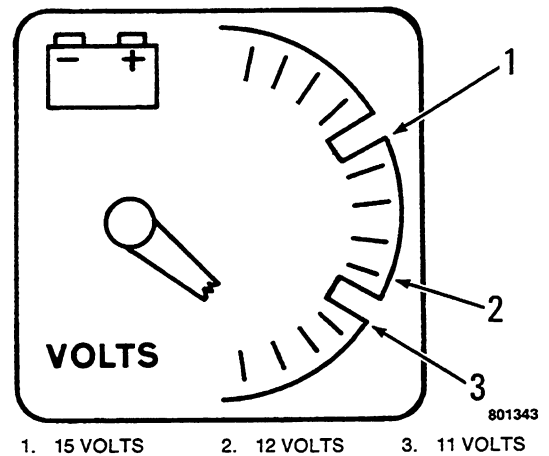

Figure 5
- h. Check the wire for the gauge with an ohmmeter. Connect one of the ohmmeter leads to the end of the wire that was connected to the sender. Connect the other ohmmeter lead to the terminal in the connector for the instrument cluster. See Figure 5, Section 4003 to locate the correct terminal in the connector.
- d. Look at the volts gauge. See Figure 5. Compare the indication of the volts gauge with the indication of the voltmeter.